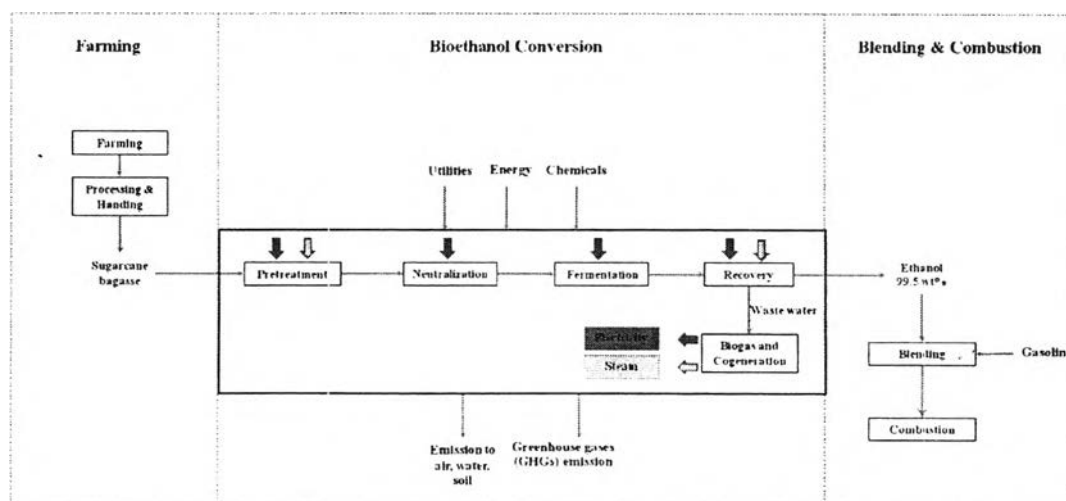

Figure 3.1 System boundary for bioethanol conversion process.
- Determine system boundaries of bioethanol production (what is and is not included in this research) and make assumptions based on the goal definition. In this research, system boundary of bioethanol production process is shown in Figure 3.1.